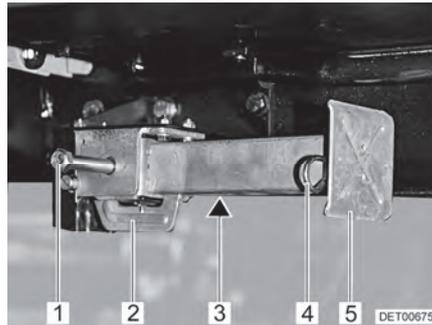

Fig. 30 Steady leg
- Place the socket spanner on the hexagon nut (Fig. 30,1) and rotate until the steady leg is in a perpendicular downward position.
- If the length of the steady leg can be adjusted, remove the splint (Fig. 30,4) out of the support foot extension (Fig. 30,5).
- Place the socket spanner on the hexagon nut (Fig. 30,1) and rotate until the steady leg is clear of the ground.
- Push in the support foot extension (Fig. 30,5) and insert the splint (Fig. 30,4) in the drilled hole in the support foot extension.
- Rotate the hexagonal nut (Fig. 30,1) until the steady leg has swung upwards and the guide (Fig. 30,2) has reached the very end of the slot (Fig. 30,3).